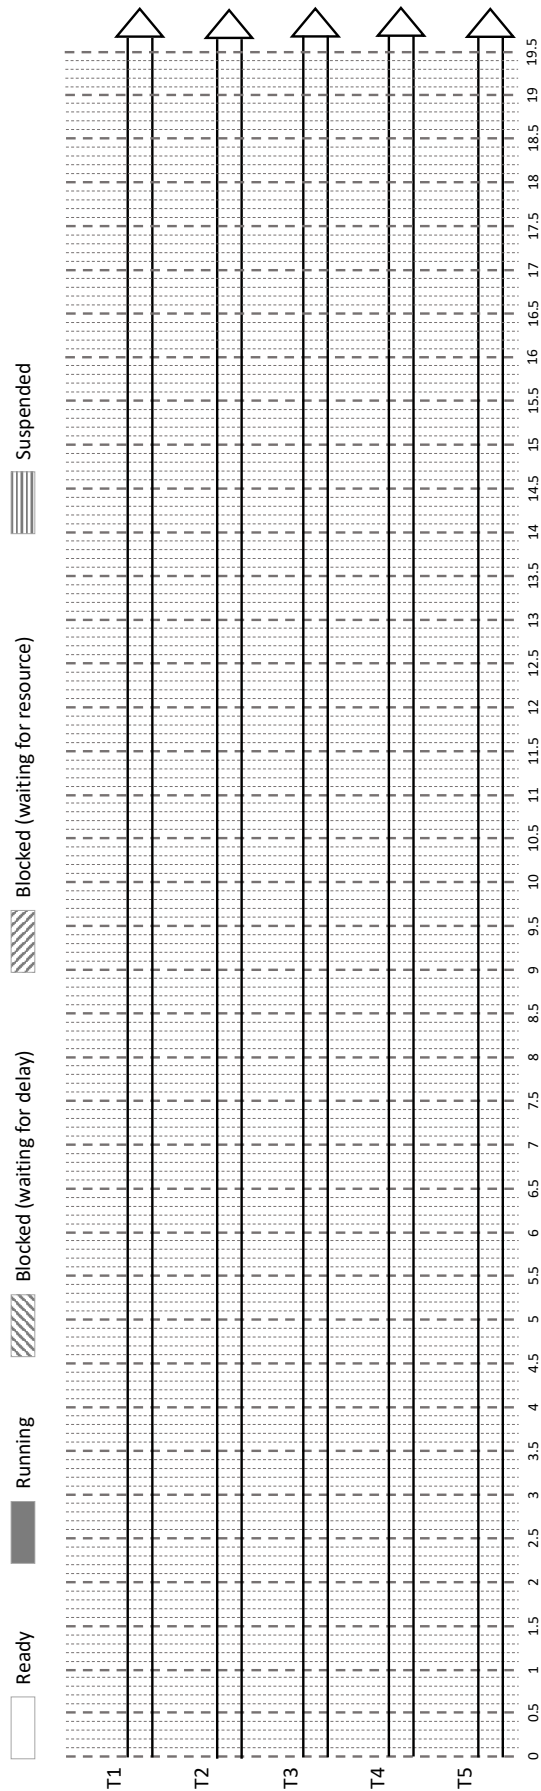

FIGURE 1.4 – Round Robin (RR) scheduling trace with slot times = 1.
- (a) With slot time = 1 and consider the following set of tasks that arrive at time 0ms. Complete the trace in the figure 1.4 and give the Average waiting time (AWT).